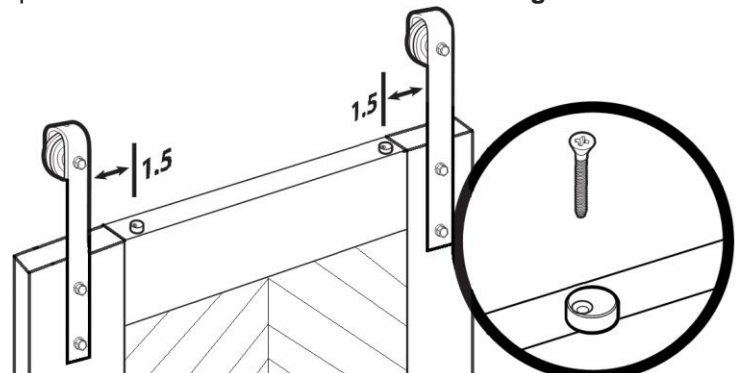

Figure 11
Once the Roller brackets have been secured and the finishing strips in place, it is important to install the Safety spacers (W). These spacers help to protect the door from being bumped off of the track. With the door laying flat in a safe and secure position, place one of the two spacers approximately 2" to the inside of one of the roller brackets. Place slightly off center towards the front of the door. Using a drill, secure the spacer with the screw provided. Repeat steps to install the second spacer inside the other roller bracket. See **Figure 11**